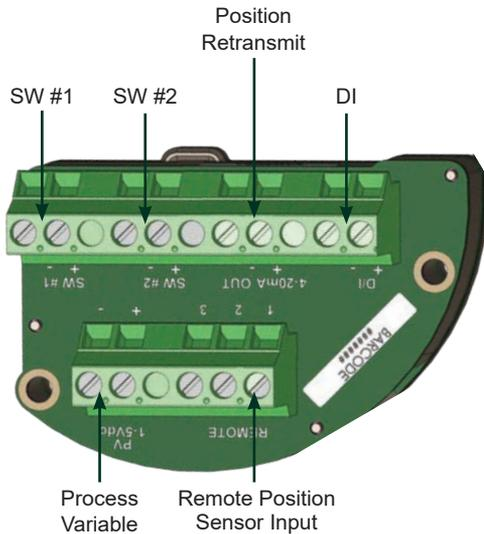

Figure 17 - Optional Modular Connections
4. If an Options Module is installed, refer to Figure 17 for connector pin assignment.